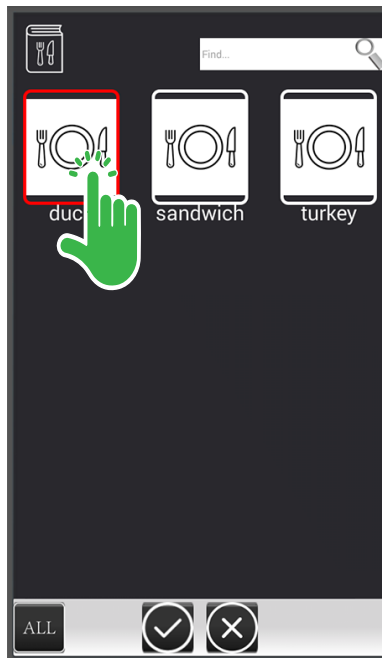

Fig. 40
4. Select as many recipes to delete as desired. A red outline (Fig. 40) will identify the recipes selected.